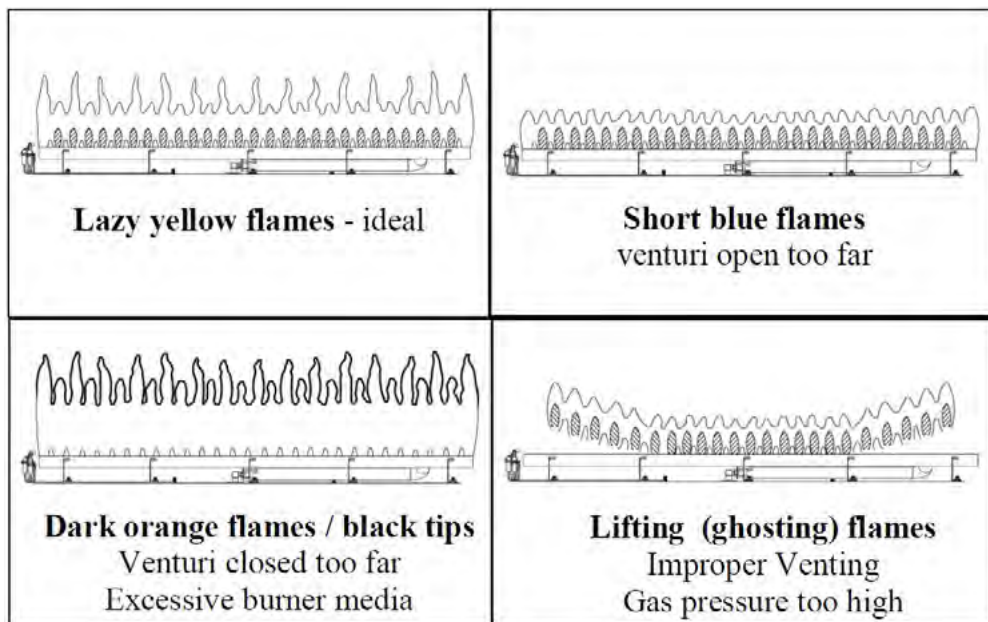
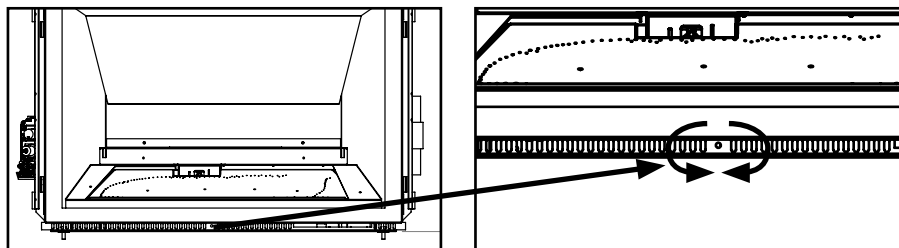

Figure 20.5.01:
Figure 20.5.02:
- Inspect and ensure the lighting of the main burner occurs within 4 seconds of the main gas valve opening. Flames should match those shown in **Figure 20.5.01**
Your fireplace includes an air shutter located under the door of the fireplace which may be used to adjust the primary air to achieve the ideal flame as shown in **Figure 20.5.01**. To adjust, use a 7/16" socket driver to turn the air shutter bolt head as shown in **Figure 20.5.02**. To open the air shutter and increase air flow to the burner, turn the adjustment screw clockwise. To close the air shutter and decrease air flow to the burner, turn the adjustment screw counterclockwise.